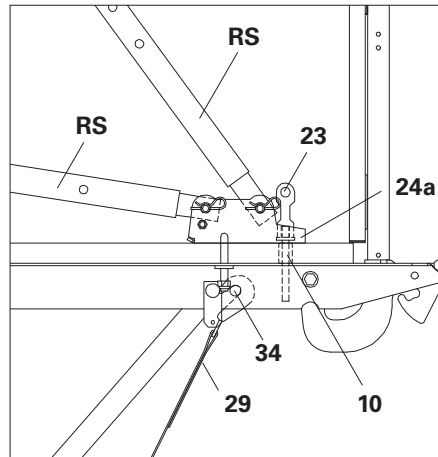

Fig. B2.04b
1. Attach mounting hooks of the Tension Belt to an additional bolt $\varnothing 16 \times 150$ with Cotter Pin 4/1 (34) in the hole behind the strut connection. (Fig. B2.04b + B2.04c)